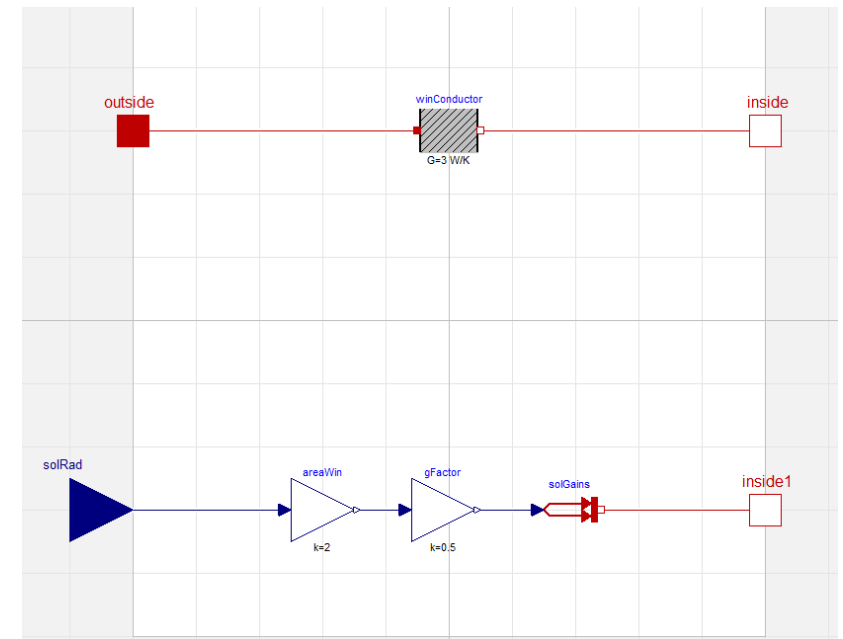

Figure 6.7: Connections in **Window**
- `Modelica.Thermal.HeatTransfer.Components.ThermalConductor` (1)
- `Modelica.Thermal.HeatTransfer.Interfaces.HeatPort_a` (1)
- `Modelica.Thermal.HeatTransfer.Interfaces.HeatPort_b` (2)
- `Modelica.Blocks.Interfaces.RealInput` (1)
- `Modelica.Blocks.Math.Gain` (2)
- `Modelica.Thermal.HeatTransfer.Sources.PrescribedHeatFlow` (1)
5. Connect the components according to figure 6.7 and give them reasonable names.